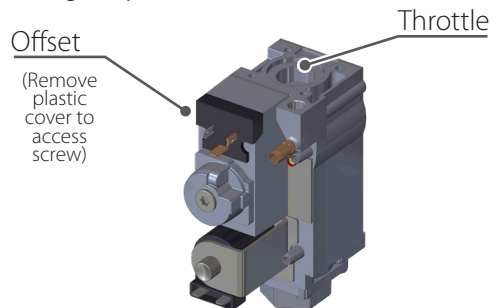

Fig. 10 - Throttle and Offset Locations
- If the CO2 level during high fire (100%) differs by more than 0.4% from the recommended combustion setting (See **Table 3**) adjust the throttle screw (see **Fig. 10**) as follows:
- If the CO2 combustion level during low fire (1%) differs by more than 0.4% from the recommended combustion setting (See **Table 3**), remove plastic cover from Offset screw (See **Fig. 10**) and adjust as follows: